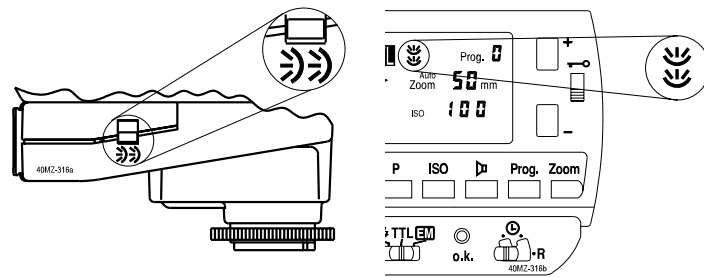

Fig. 16: Switching on the secondary reflector - Display
Symbols on the LC display  indicate that the secondary reflector ⑦ is on (Fig. 16). If these symbols flash, you are advised that the main reflector is not tilted and that use of the secondary reflector is not expedient.